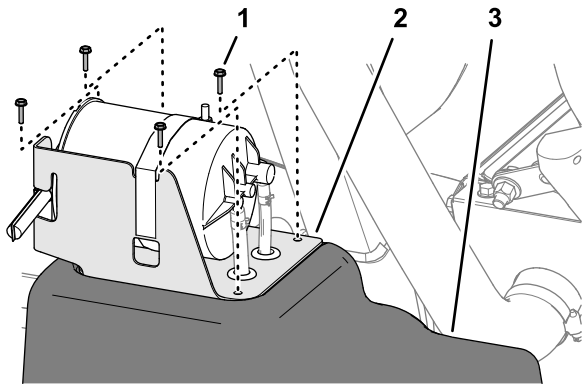

**Figure 88**
4. Secure the hoses to the fittings with the clamps (Figure 88)